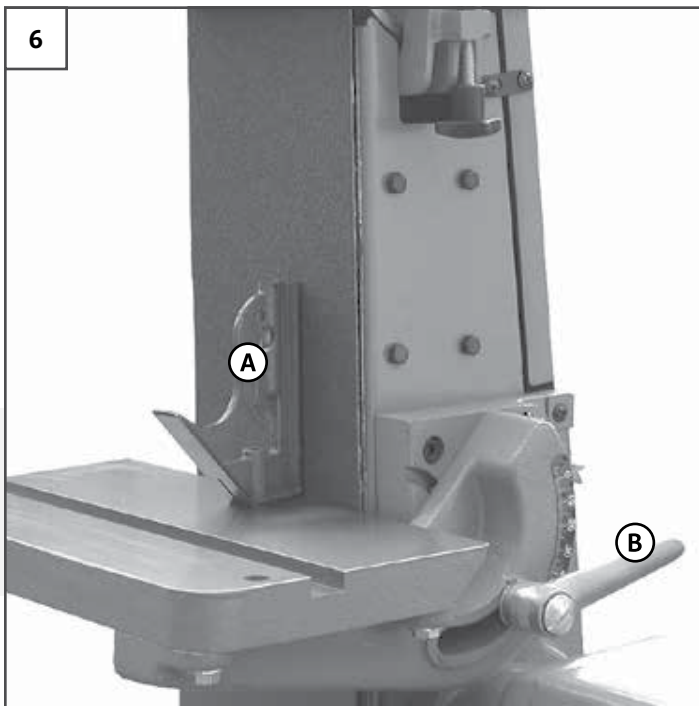

FIGURE 6: ADJUSTING BELT TABLE BEVEL STOPS
2. Place a **COMBINATION SQUARE (A)** on the table against the sanding belt to verify the 90° angle of the table. See Figure 6.
3. If the table is not at 90°, loosen the table **LOCK LEVER (B)** and adjust the table.
4. Tighten **LOCK LEVER (B)** to secure the table in position.